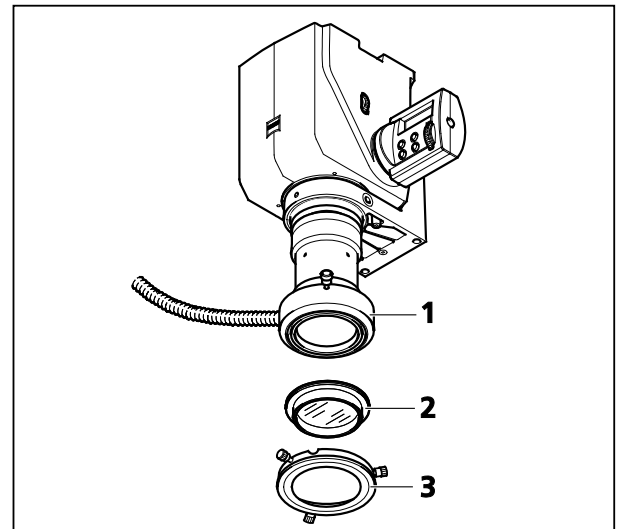

Fig. 33 Slit-ring illuminator 1500 ECO
Fiber-optic slit-ring illuminator (Fig. 33/1)
- Assembly: Grip the analyzer (Fig. 33/2) by the collar and screw it into the ring illuminator from behind. Insert the ring polarizer (Fig. 33/3) over the collar of the analyzer and push it over the ring illuminator until it engages. Prior to clamping, the semi-circular recess in the holder of the polarizer must coincide with the light guide hose. Then push the ring illuminator together with the pole filters onto the objective until it engages and secure it.